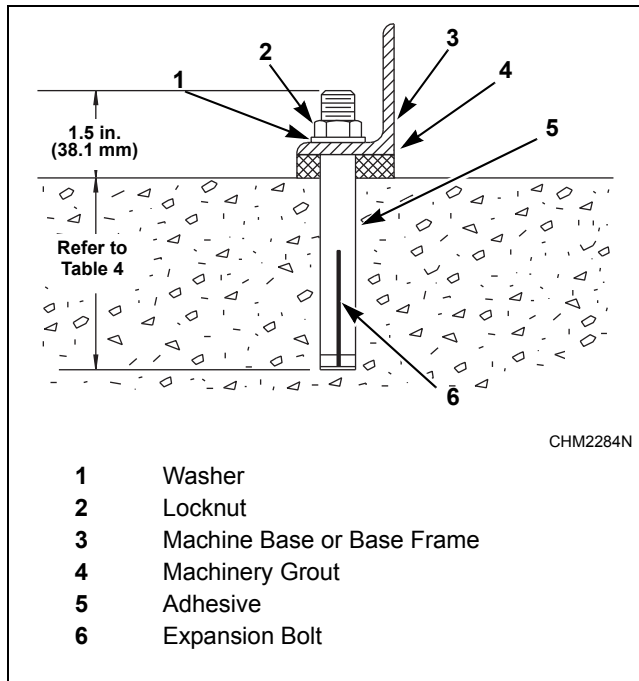

Figure 10
The completed expansion bolt installation is shown in *Figure 10*.
7. Insert bolt until it reaches the bottom of the hole and 1.5 inches (38 mm) of the bolt extends above the base frame. Refer to *Figure 10*.